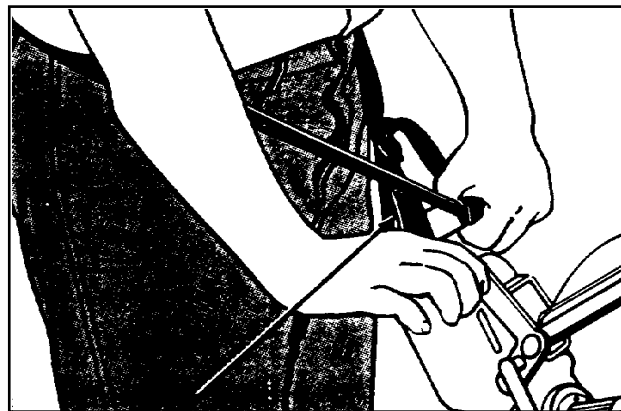

Figure 13
(See Figure 13)
8. Gradually feather-cut out at the termination point by easing the drum up with the control lever. (See Figure 13)